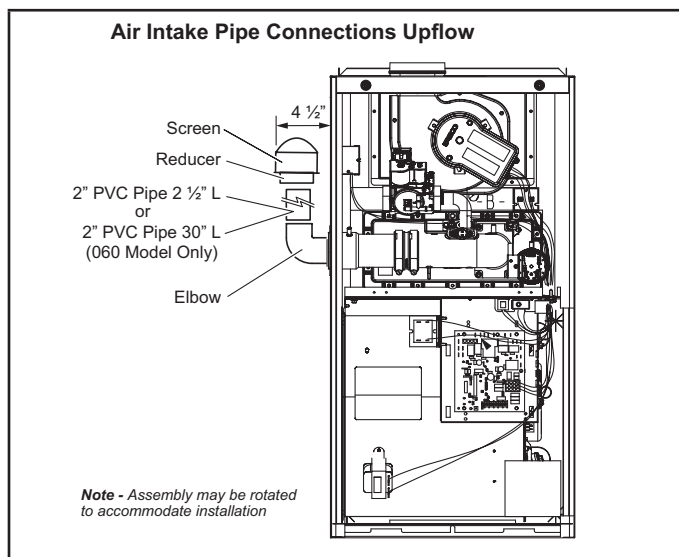

FIGURE 29
- 2 - Remove the air intake assembly from outside the cabinet. The assembly is not secured with screws or glue and will remove with ease. See FIGURE 29.